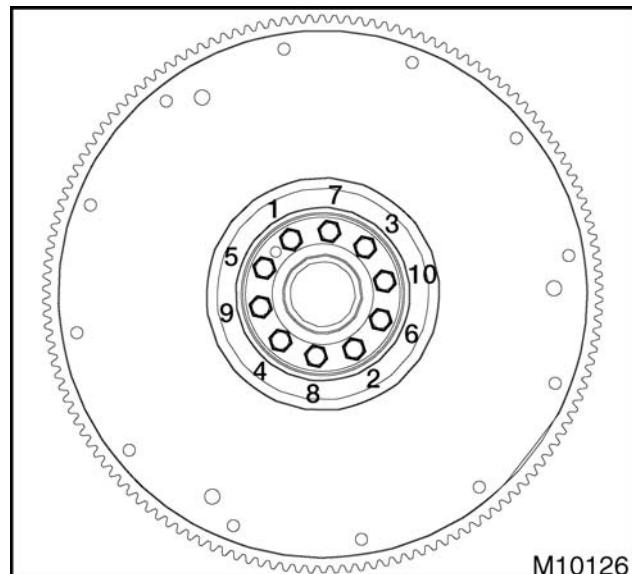

Figure 499 Torque sequence for flywheel assembly
6. Tighten all bolts in sequence shown (Figure 499) to initial torque of 4 N·m (35 lbf·in).
7. Tighten all bolts in sequence shown (Figure 499) to final torque of 94 N·m (69 lbf·ft).